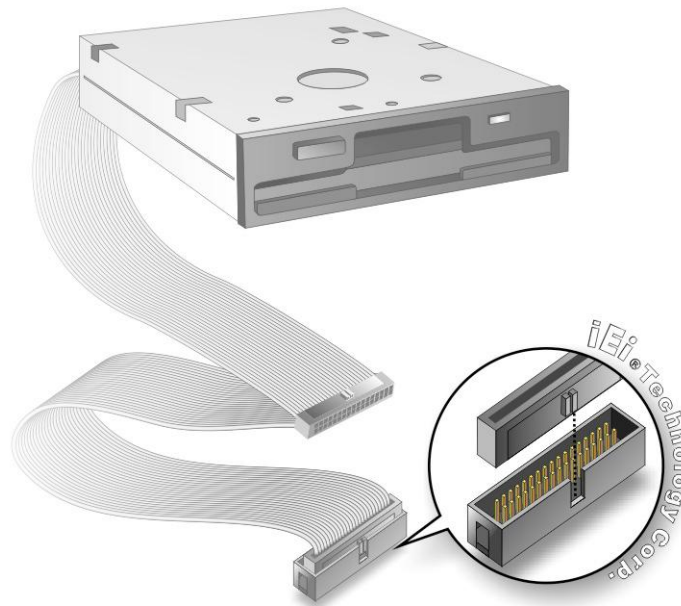

Figure 5-11: FDD Cable Connection
Step 2: Insert the connector. Connect the FDD cable connector to the on-board connector. See **Figure 5-11**. A key on the front of the cable connector ensures it can only be inserted in one direction.